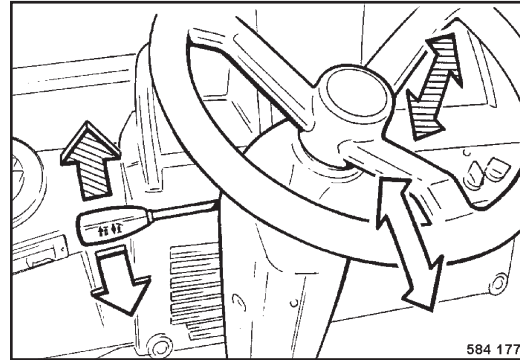

Fig. 56
- Adjustment of steering wheel in height, pull lever (Fig. 56) up and move the steering wheel to the desired height.